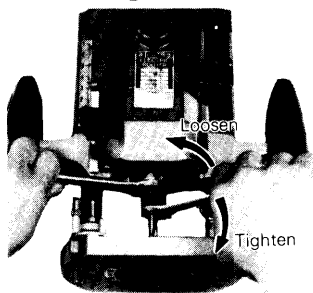

Fig. 4
(1) After deeply inserting the bit into the collet chuck hole, firmly tighten the collet chuck with the accessory wrenches. (Fig. 4)